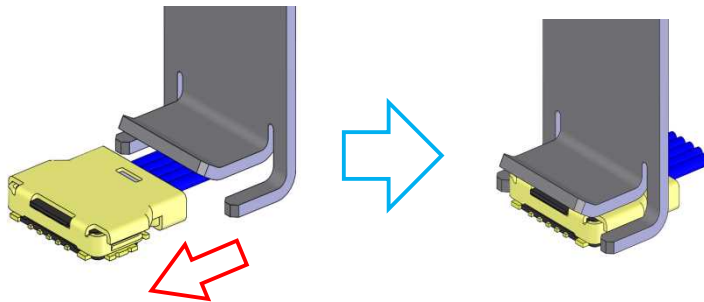

Fig.14
- ① Slide the JIG from the cable pull-out direction parallel to the connector until it contact the stopper so that you can hold the entire plug connector.(fig.14)